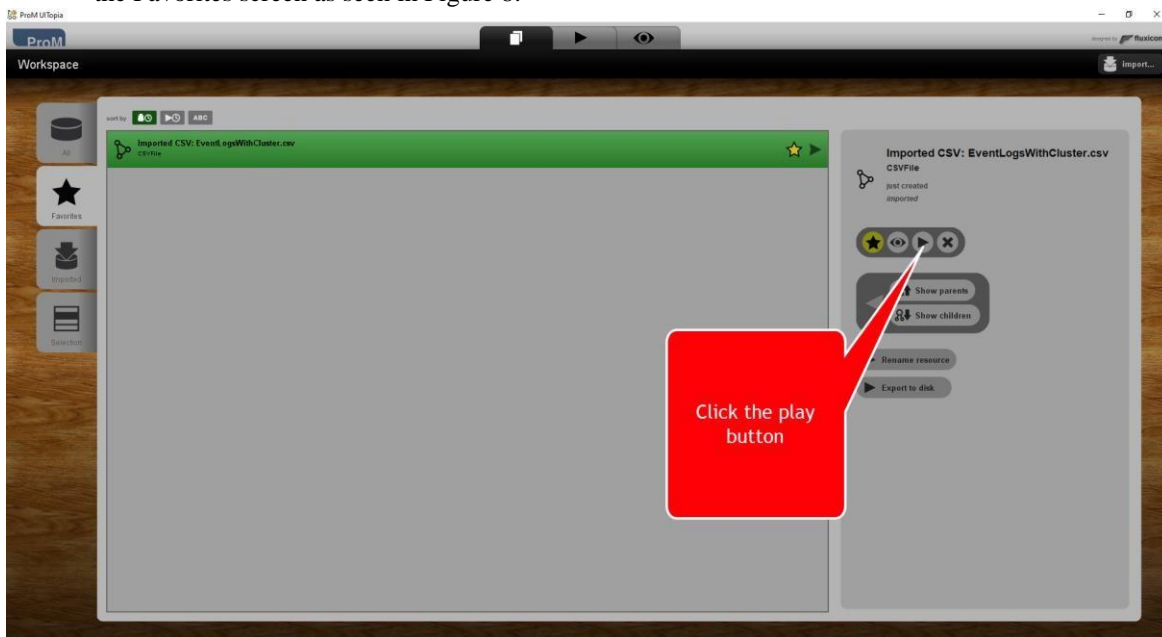

Figure 8 – Image showing how to open the file conversion window.
4. To convert the CSV file to a XES file, which ProM requires for process mining, click the play button on the Favorites screen as seen in Figure 8.